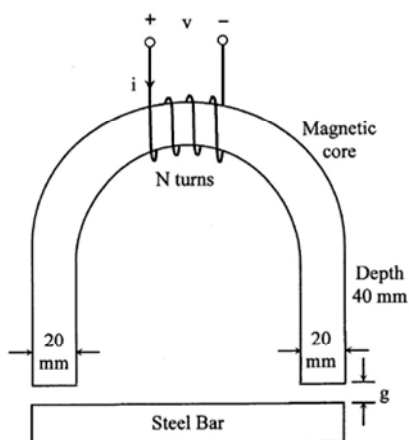

Figure 1
3. The electromagnet shown in Figure 1 is used to lift a steel bar. The system is excited by a coil of 2500 turns wound over the semi-circular part of the magnetic core. The cross section of the magnetic core is 20 mm x 40 mm throughout the structure. The air gap 'g' is 10 mm. Assume that the permeabilities of the magnetic core and the steel bar are infinitely high. The permeability of free space $\mu_0 = 4\pi \times 10^{-7}$ H/m.